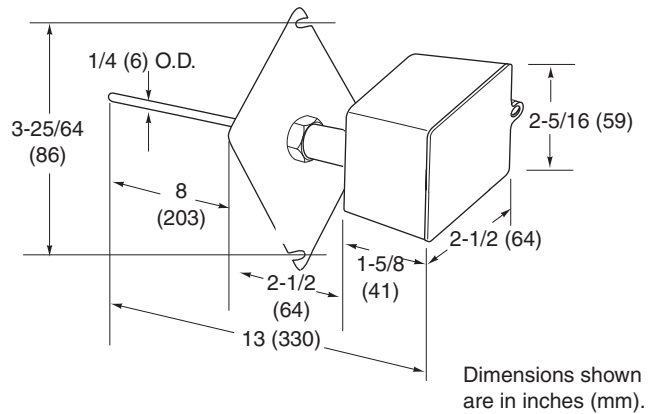

Figure-1 TS-6721-850 Mounting Dimensions.
2. Use the mounting flange supplied as a template (or refer to Figure-1 for duct mounting dimensions) for mounting hole location.